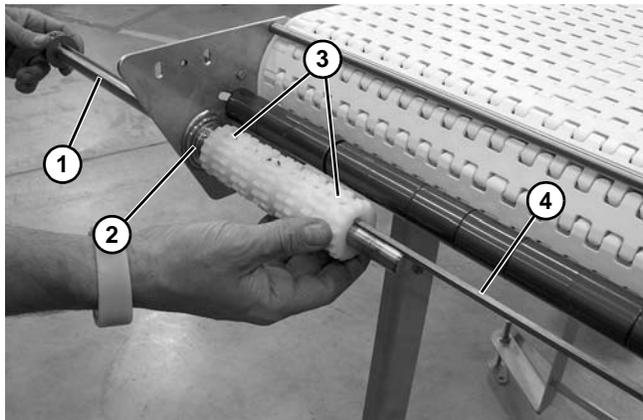

Figure 67
1. Insert drive shaft (**Figure 67, item 1**) through bearing (**Figure 67, item 2**).
2. Slide drive sprockets (**Figure 67, item 3**) and shaft key (**Figure 67, item 4**) onto shaft while pushing shaft through bearing.